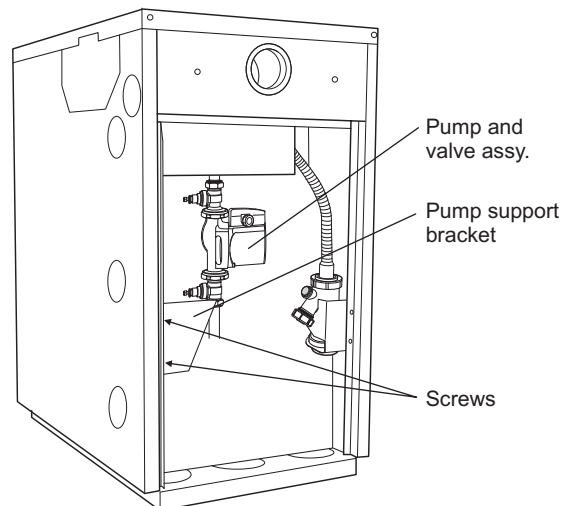

Fig. 19 - 50/70 rear view (showing pump assembly)
- 9 Fit the pump support bracket, with the screws provided, using the two holes in the left hand side panel flange (viewed from rear of boiler as shown in Fig. 19).
- 10 Fit the pump/pump valve assembly to the end of the pressure relief valve/auto air vent manifold pipe. Ensure that the pump shaft is horizontal and the pump motor is facing towards the right side of the boiler (viewed from the rear as shown in Fig. 19). The flow arrow on the body of the pump must face in the required direction of flow – away from the boiler flow connection – downwards in this case.